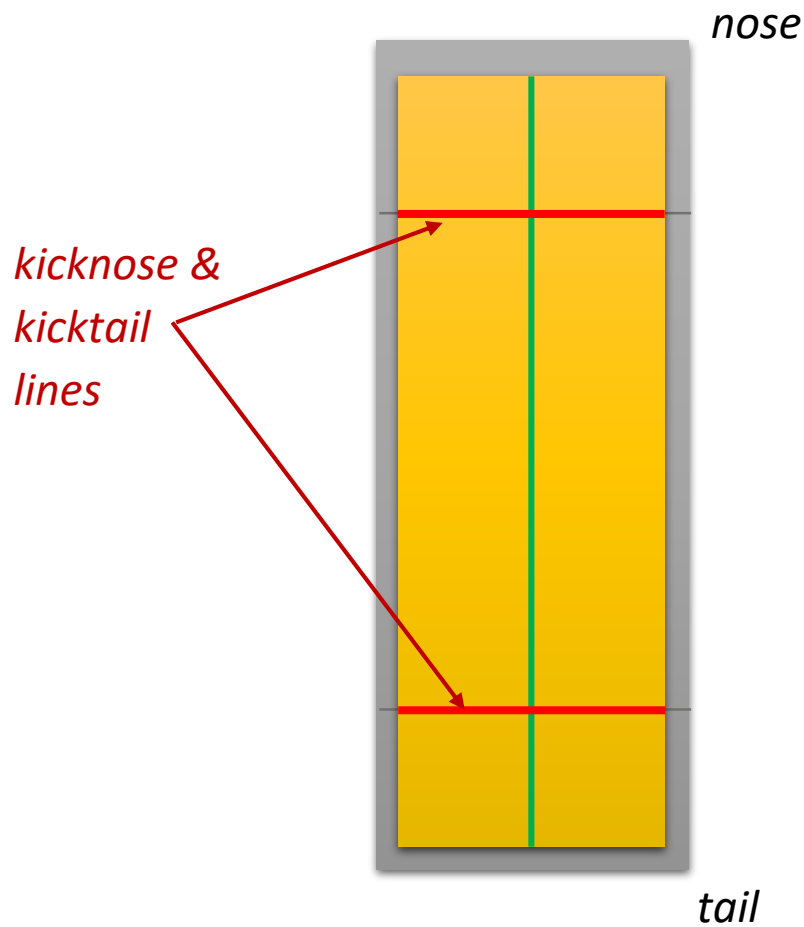

Figure 2
3. Also, before moving your board off the mold, mark the **kicknose and kicktail lines** from your mold onto your board (see Figure 2, below).